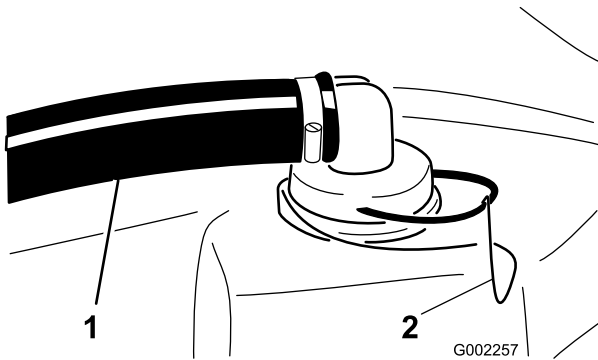

Figure 56
2. Remove the retainer from the red fitting attached to the large hose on the top of the tank (Figure 56).
3. Disconnect the hose from the tank (Figure 56).